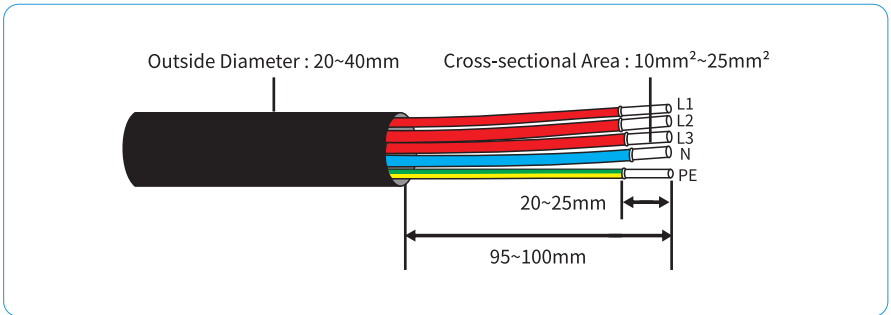

Figure 4-21
1) According to the table above, select an appropriate AC cable, peel off the insulation sleeve of AC cable for 95-100mm, and peel off the sleeve in the conductor core of 3L/PE/N wires for 20~25mm, as shown in Figure 4-21: